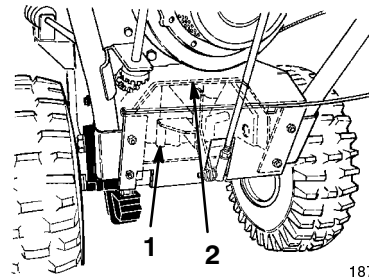

Figure 32
6. Loosen the four flange head cap screws (two on each side) that secure the transmission frame to the engine frame (Figs. 32 and 33).